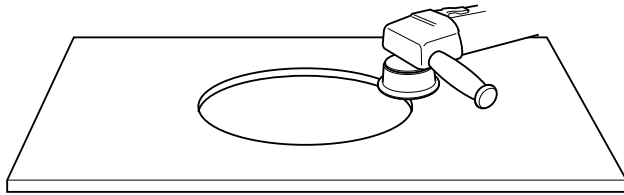

Figure 18
- Use an orbital sander to smooth the cutout if needed (see Figure 18).